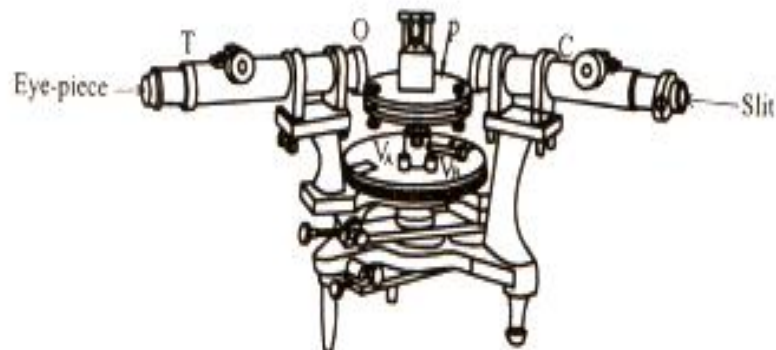

Fig D-1
Spectrometer consists of collimator (c) telescope (T), prism table (p) and vernier table as shown fig D-1. The collimator consists of a convex lens fixed at one end and a slit of adjustable width on the other end.